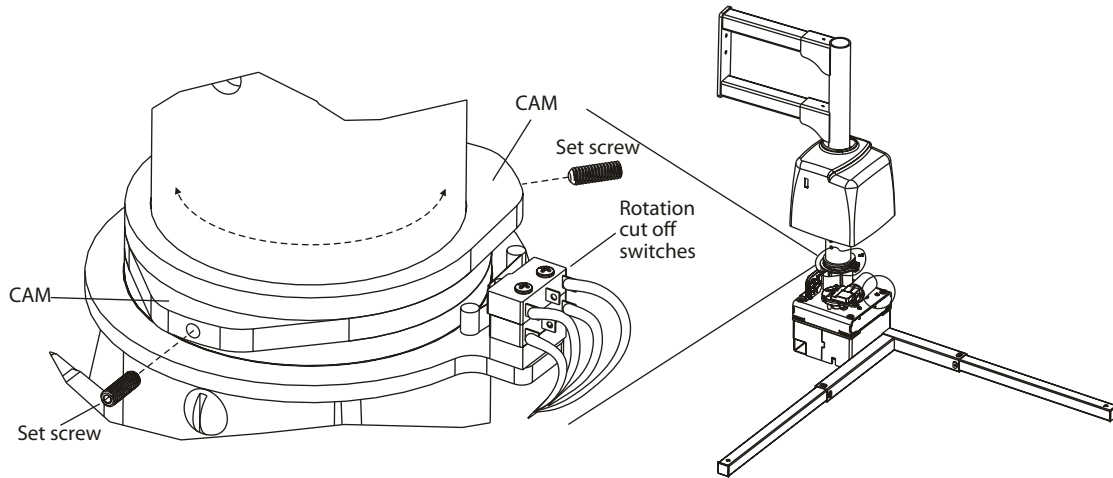

Figure 21-1
**3. The amount of allowable rotation** is determined by the cams as indicated. [Figure 21-1]. Loosen set screw and rotate as required.